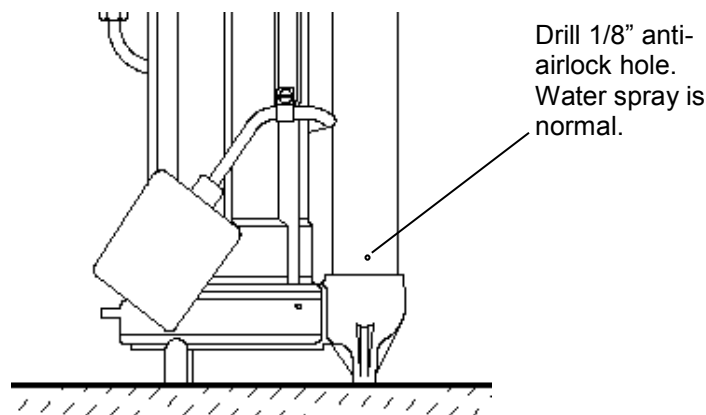

Fig. 1 – Anti-airlock hole position
7. If a check valve is used, **a 1/8" anti-airlock hole should be drilled in the discharge pipe just above the pump's discharge outlet to prevent pump "airlock" (see Fig. 1)**